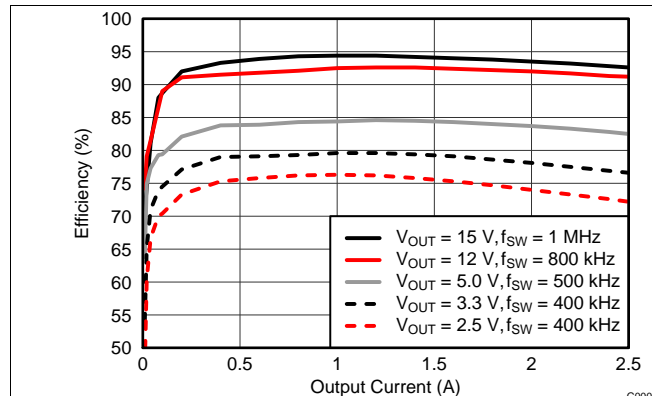
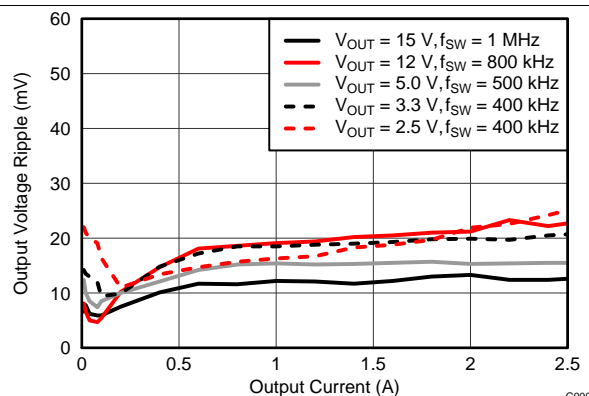
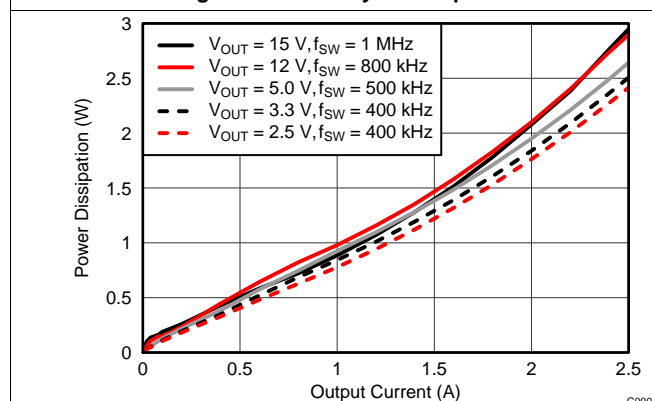

Figure 7. Efficiency vs. Output Current
Figure 8. Voltage Ripple vs. Output Current
Figure 9. Power Dissipation vs. Output Current
- (1) The electrical characteristic data has been developed from actual products tested at 25°C. This data is considered typical for the converter. Applies to Figure 7, Figure 8, and Figure 9.
- (2) At light load the output voltage ripple may increase due to pulse skipping. See Light-Load Behavior for more information. Applies to Figure 8.